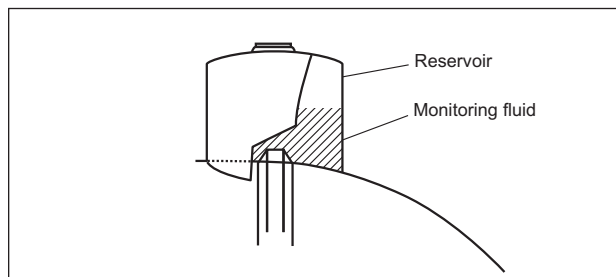

FIGURE 15-1
15.4.1.2. When the tank is delivered, check the monitoring-fluid level and record it on the shipping/receiving paperwork and Tank Installation Checklist. (See FIGURE 15-1.)